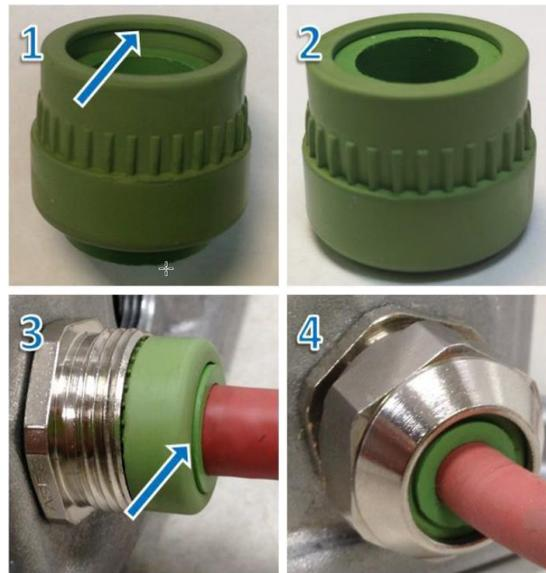

Figure 3-7a. Cable Gland Sealing
**Note:** In picture 1 of Figure 3-7a, there is a ridge on the inside bottom of the sealing collar for the sealing sleeve to stop on. Do not push the sealing sleeve past this ridge. If the sleeve is installed past the ridge, the cable gland will not seal properly. Picture 3 shows a correct installation with the sealing sleeve slightly proud of the sealing collar.